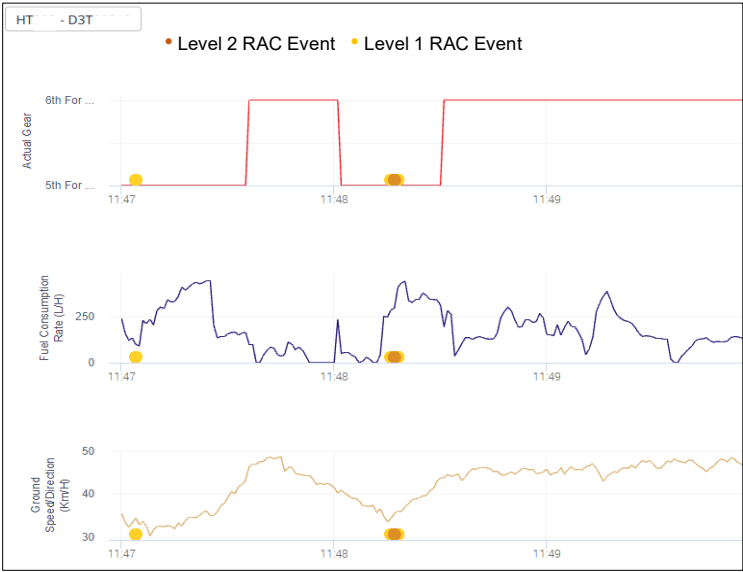

Figure 6 RAC Data Log 1
Combining RAC with HEI allows mine sites to efficiently identify problem areas and repair haul roads. If a site is able to utilize these programs to reduce the severity level of their haul fleet from 11 to 7, the fleets reliability will be significantly improved. The graphs below (Fig. 6) show an actual example of a 793F as it approaches a rough area in the haul road. During this snapshot the haul truck undergoes three gear changes, decelerates from 48KM/H to 35KM/H, and accelerating again from 35KM/H to 45KM/H. Three “Level 1” and One “Level 2” RAC events are triggered over this area of road.
- Fig. 5 displays spikes in fuel consumption from 100 L/HR to 450 L/HR, while Fig. 6 fuel burn rates stay between 100 L/HR to 250 L/HR